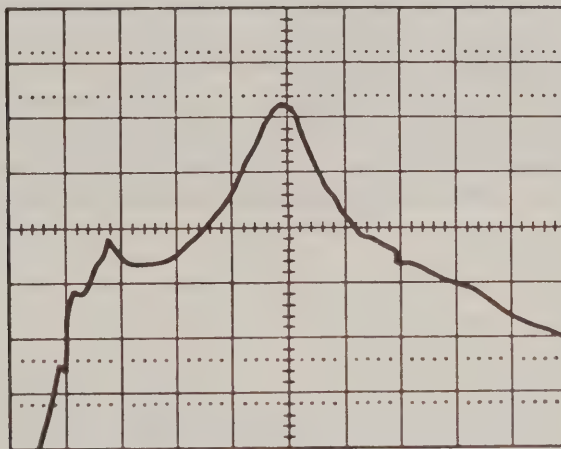

Figure 5-12. Typical Output Waveform Displays YTM Bandpass
- j. Adjust 3312A FREQUENCY until a single trace is obtained. Display should be similar to that shown in Figure 5-12.